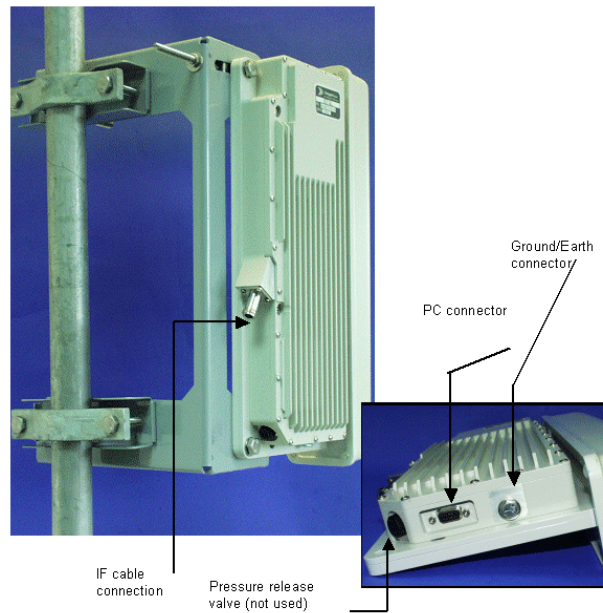

Figure 5-13: Connecting the BS 28 GHz ODU
The procedure consist of connecting the ground and the IF cables listed in Table 5-2 to the connections shown in Figure 5-13.
- Referring to Figure 5-13, connect the ground/earth cable to the BS ODU.
- Referring to Figure 5-13, connect a single coaxial cable between the ODU and the IDU IF MUX.